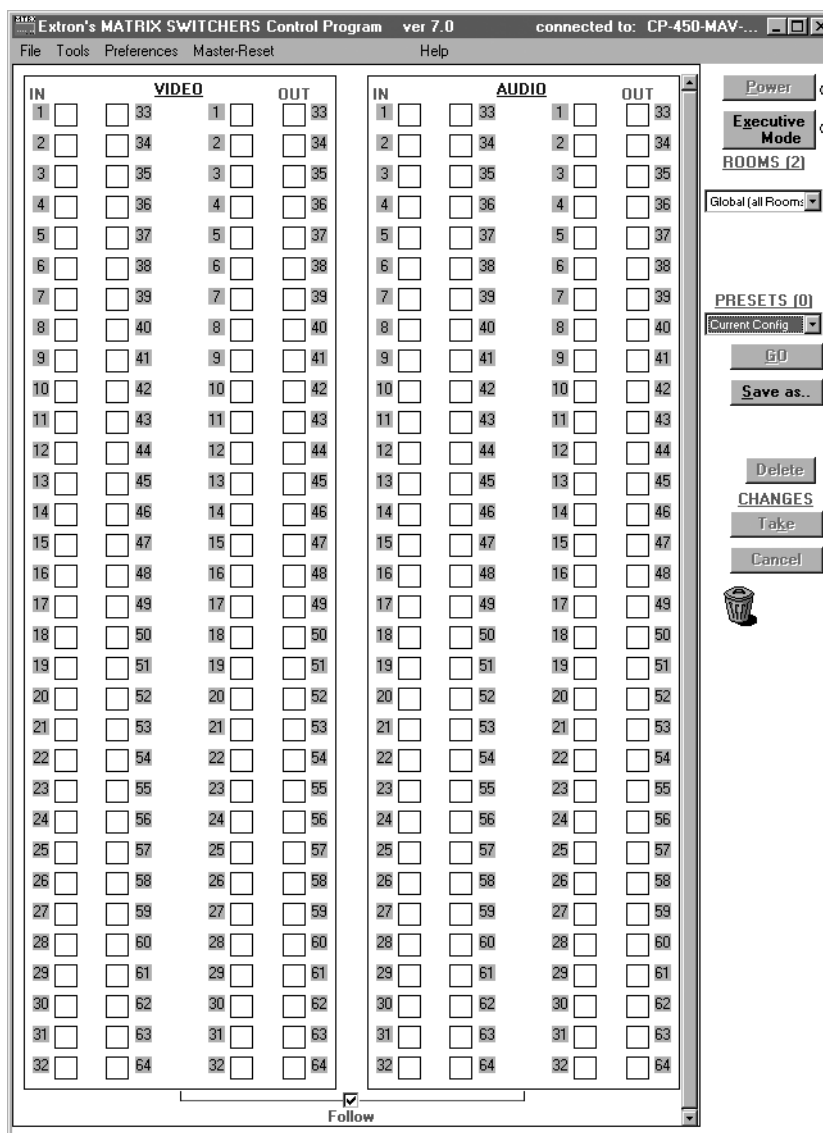
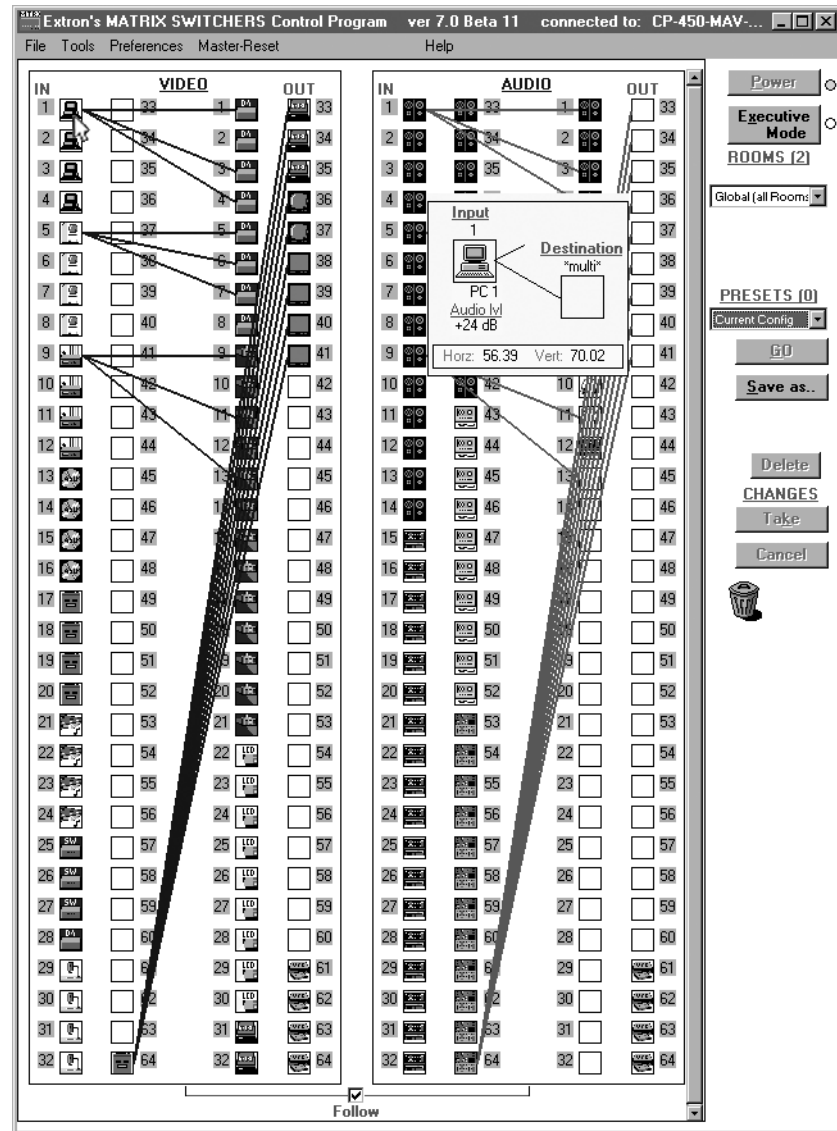

Figure 5-5 — Extron Matrix Switchers Control Program window
Figure 5-6 — Sample program window, with ties and icons
Click **OK**. The Extron Matrix Switchers Control Program window (figure 5-5 and figure 5-6 on page 5-6 and page 5-7) appears, displaying the current configuration of the attached matrix. Proceed to step 4.
If you logged on using the administrator password, the program connects you to the matrix switcher with all of the administrator rights and privileges. The Extron Matrix Switchers Control Program window appears (figure 5-5 and figure 5-6, on page 5-6 and page 5-7), displaying the current configuration of the attached matrix. Proceed to step 4.
- For quick display of information on a specific input or output device, position the pointer tool over that device in the control program window. The program opens an inset that details the connections to that device, the audio level, the frequency of the video signal input from or output to that device, and, for the CrossPoint switchers only, the switching interval (RGB delay). See the inset box in figure 5-6.